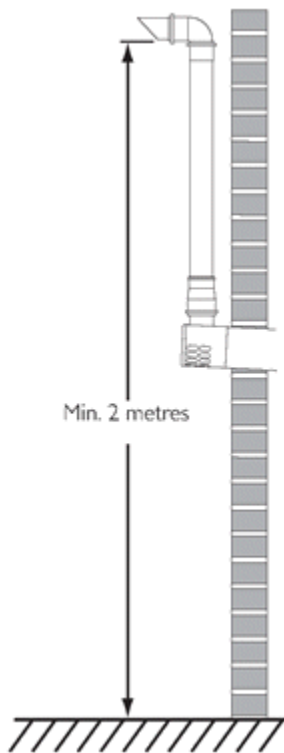

Fig. 21g
2. When completed the terminal must be at least 2 metres above ground level (Fig. 21g).
19. Mark the female end of the extension at 30mm as shown in two positions, directly opposite each other (Fig. 21g).